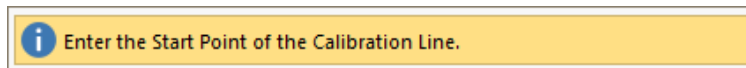

FIGURE 3-3
- Click on the **OK** button. The program will now import the CAD drawing and display a message in the yellow **Message Bar** asking you to *Enter the Start Point of the Calibration Line* as shown in **FIGURE 3-3**.